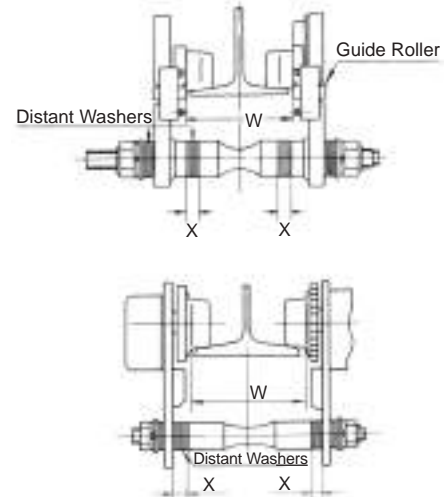

Fig.1 Trolley width adjustment
- When the dimension X (in Fig. 1) is Zero the dimensions W for each capacity of the trolley are listed below.
- Set all distant washers as Fig. 1 shows.
① Stopper